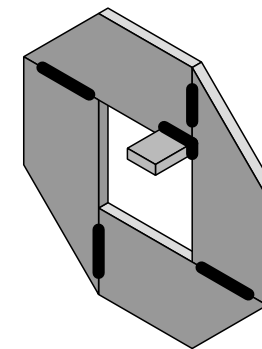

Figure 12: axial bearing washer.
- 9) Make four axial thrust washers from 40x6 or 40x3 or similar flat bar like those shown in Figure 12. You must remember to weld on a tag made of a 20mm length of bar to each ring as shown in the drawings. This makes the washers go round with the axle and stops wear in the wrong places.